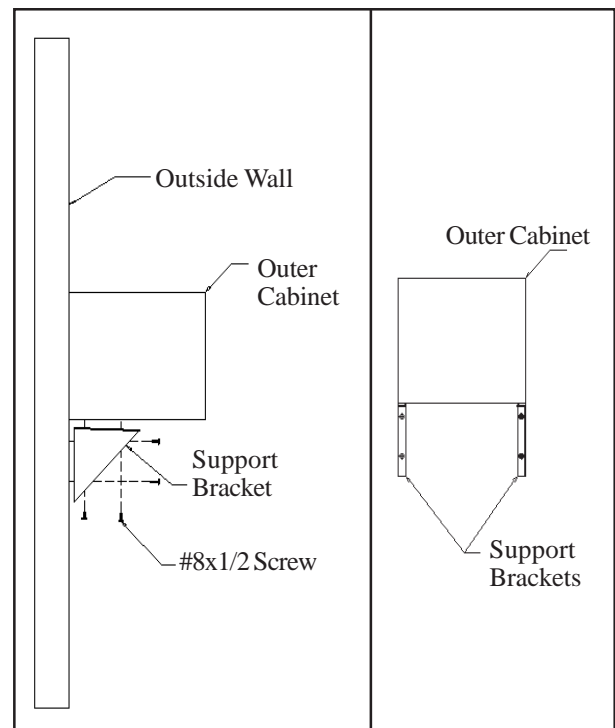

Figure 21
- I.) From outside secure the two support brackets to the outside wall, anchors (not provided) may be required. Make sure brackets are flush against the outer cabinet bottom and under the left and right sides. You must drill four 7/64" holes through the outer cabinet bottom using clearance holes in the support bracket as a template. Secure bracket to outer cabinet bottom using four #8x1/2" screws provided. See Figure 21.
- H.) From outside secure the two support brackets to the outside wall, anchors (not provided) may be required. Make sure brackets are flush against the outer cabinet bottom and under the left and right sides. You must drill four 7/64" holes through the outer cabinet bottom using clearance holes in the support bracket as a template. Secure brackets to outer cabinet bottom using four #8x1/2" screws provided. See Figure 21.